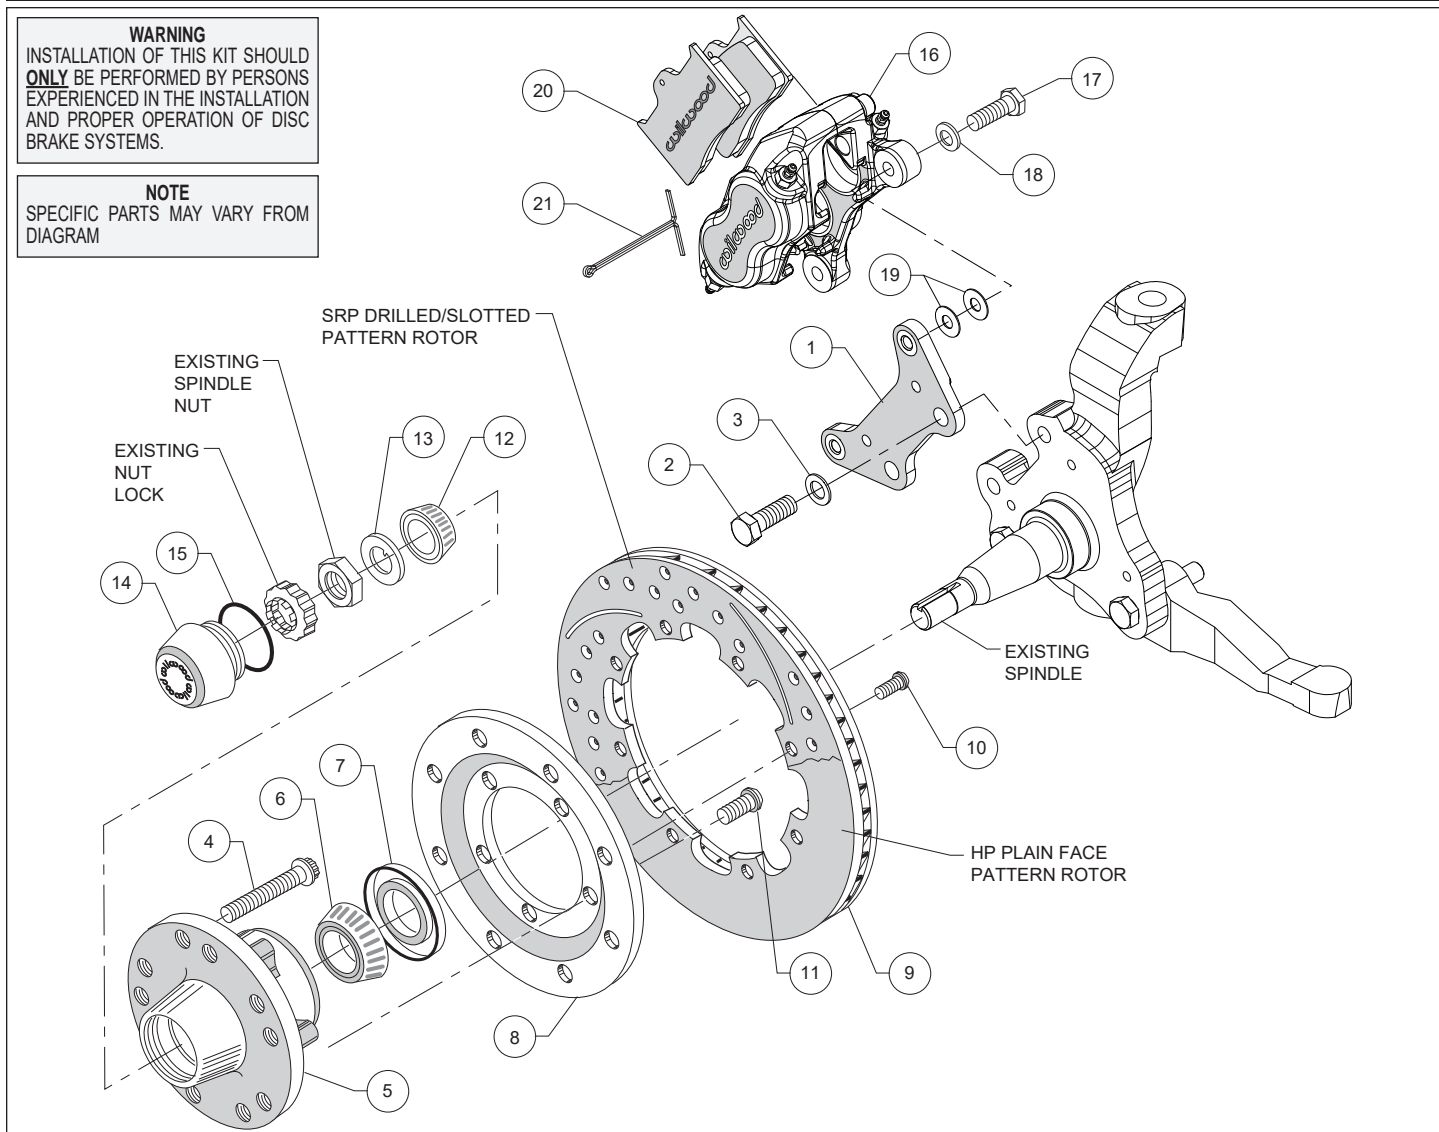
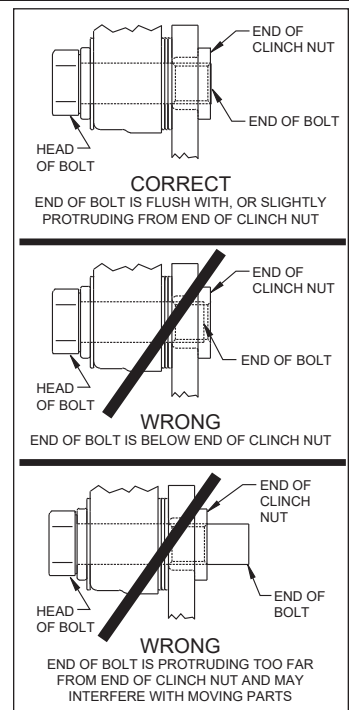

Figure 1. Typical Installation Configuration
Figure 3. Clinch Nut Engagement Diagram
Assembly Instructions (numbers in parenthesis refer to the parts list, on the preceding page and Figure 1): **CAUTION:** All mounting bolts must fully engage clinch nuts. Be sure to check that all bolts are either flush or protruding through flanged side of clinch nut after shimming, Figure 3.
- Align caliper mounting bracket (1) with the corresponding holes, to the face of the spindle. Attach using bolts (2), and washers (3), as shown in Figure 1 and Photo 1. Temporarily tighten the mounting bolts. Ensure that the flanged heads of the clinch nuts in the bracket are facing outboard, Photo 1. **NOTE:** The bracket must fit squarely against the mounting points on the spindle. Inspect for interference from casting irregularities, machining ridges, burrs, etc. Remove bolts one at a time, apply red *Loctite*® 271 to threads and torque to 77 ft-lbs.
- Install the grease seal (7) by pressing into the backside of the hub (5), flush with the end of the hub, Photo 3.
- Orient the rotor (9) and the rotor adapter (8) as shown in Figure 1 and Photo 4. Attach the rotor to the adapter using bolts (10). Using an alternating sequence, apply red *Loctite*® 271 to the threads, and torque to 25 ft-lb.
- Mount the adapter/rotor assembly (8 and 9) to the hub (5) using bolts (11), as shown in Figure 1 and Photo 5. Using an alternating sequence, apply red *Loctite*® 271 to the threads, and torque to 45 ft-lb.
- NOTE:** Please reference the caution statement at the beginning of the assembly instructions. Mount the caliper (16) onto the caliper mounting bracket (1) using bolts (17) and washers (18), as shown in Figure 1. Initially place two .035" thick shims (19) on each bolt between the caliper and the bracket, Photo 8. Temporarily tighten the mounting bolts and view the rotor (9) through the top opening of the caliper. The rotor should be centered in the caliper, Photo 9. If not, adjust by adding or subtracting shims between the bracket and the caliper. Always use the same amount of shims on each of the two mounting bolts. **NOTE:** The end of each bolt must be flush with or slightly protruding from the head of the clinch nut, as shown in Figure 3. If necessary place spare shims between washer (18) and caliper mounting ear to achieve the proper clinch nut engagement. Once the caliper alignment and clinch nut engagement are correct, remove the bolts one at a time, apply red *Loctite*® 271 to bolt threads, and torque to 40 ft-lb.